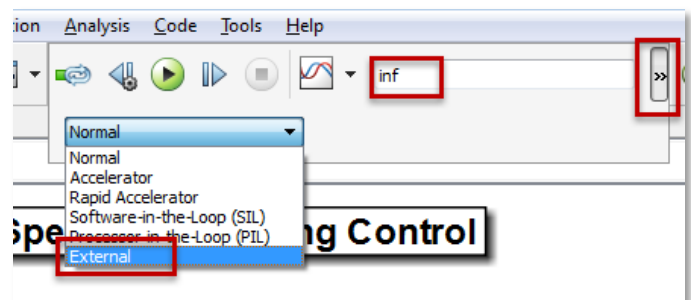

Figure 18: Setup for External Mode
* External Mode (Figure 18) allows you to run your model on the EV3, while still using Simulink on your host computer as an interface to interact with your model. This allows for live parameter tuning – you do not need to stop, edit
Note: If your model stops working after 10 seconds, you may have forgotten to adjust the Stop time in the model window (**Figure 18**).